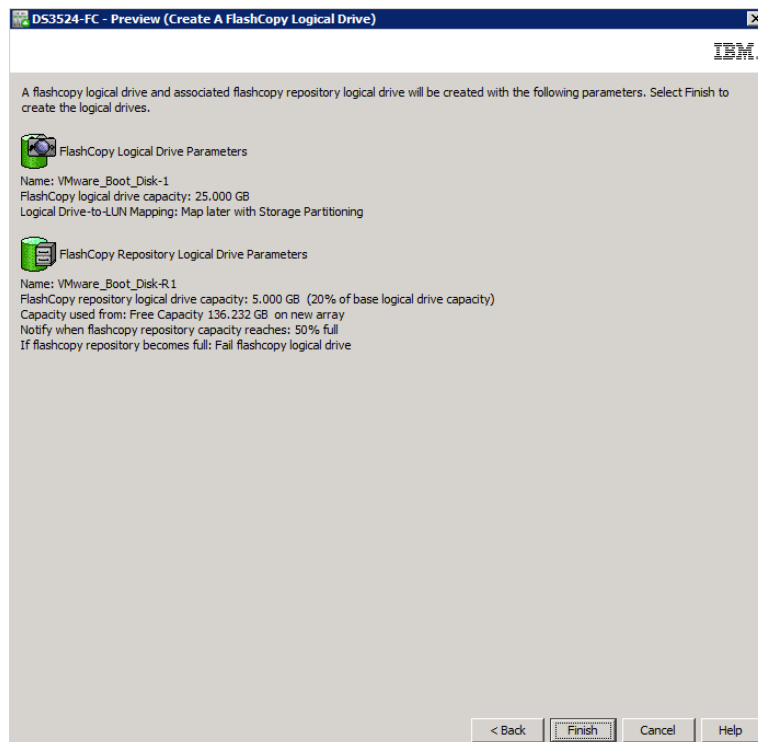

Figure 2-22 Create FlashCopy Logical Drive Wizard: Preview
- e. The Preview window (Figure 2-22 on page 34) opens and shows the FlashCopy and repository parameters. You may click **Back** to return to the previous windows and edit the parameters or click **Finish** to continue. Notice that more information is available regarding logical drive parameters than was displayed in the Preview window when the simple path was used. The extra details associated with creating a new array from unconfigured space for the repository logical drive are shown in Figure 2-22 on page 34.